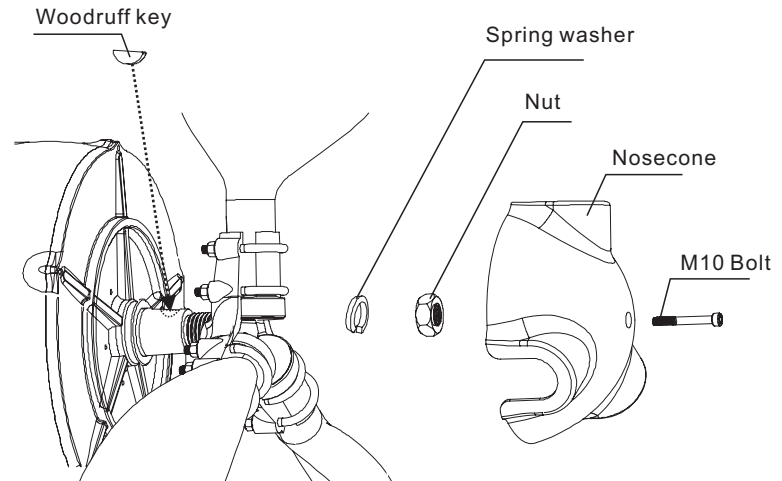

Figure 5
- Position the entire hub / blade assembly onto the shaft and make sure that the groove on the hub is corresponding accurately to the groove on the shaft. Then with its circular surface at the direction to the shaft, insert and tighten the woodruff key to the groove between the hub and the shaft. (refer to figure 5)
- Install the nosecone with one M10 socket head bolt. (refer to figure 5)